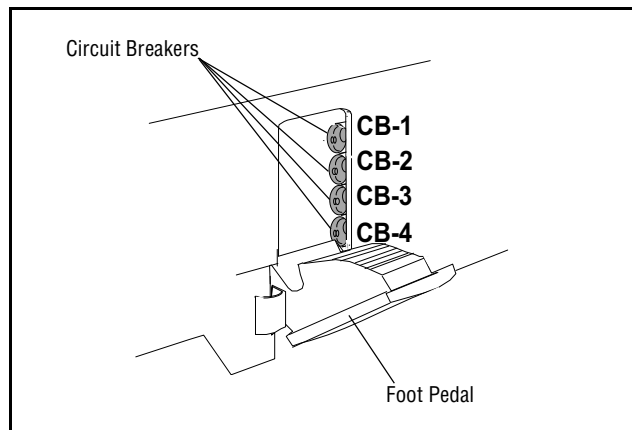

Figure 4-1. Circuit Breakers
1. Lower foot pedal on table base to access the circuit breakers (located on right of opening when foot pedal is down). See Figure 4-1.